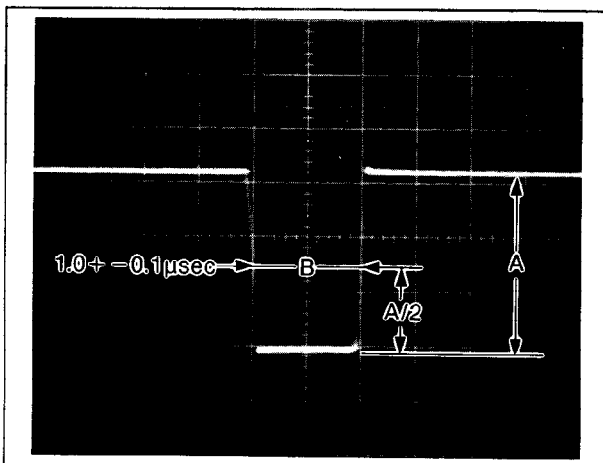

Fig. E25
4. Adjust VR9002 so that the noise gate width "B" to be  $1.0 \pm 0.1 \mu\text{s}$  as shown in Fig.E25.